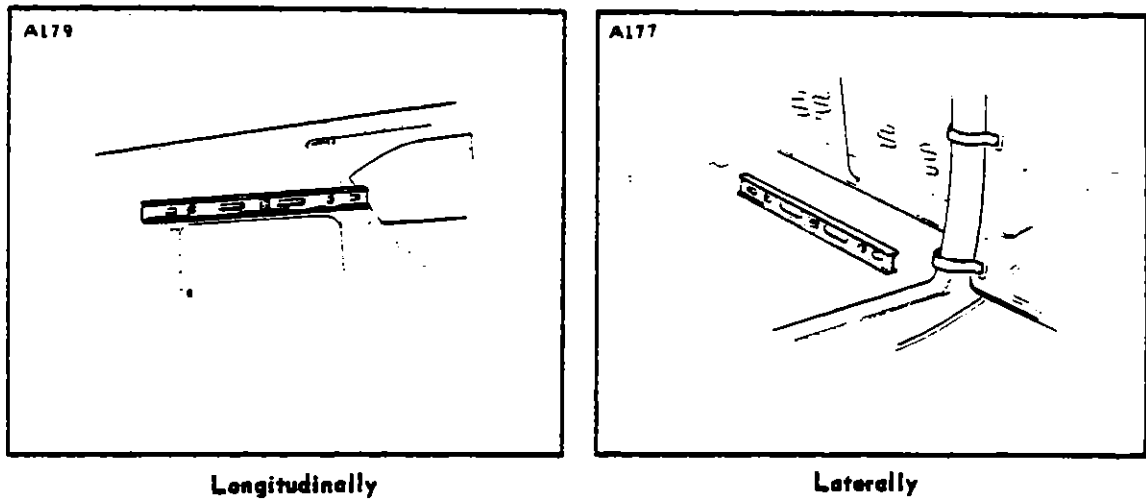

FIGURE 2-11. LEVELING AIRPLANE
2-13. **Leveling.** (Refer to Figures 2-11 and 2-12.)
- a. To laterally level the aircraft, place a level over the bulkhead to which the baggage door hinge brackets are attached or on the hat section channel of the firewall bulkhead. (Refer to Figures 2-11 or 2-12 for the particular location of the aircraft being serviced.) Should equipment or other obstacles hinder placing the level directly on the channel, use two spacers of equal length between the level and the channel to bring the level above any obstacles.
- d. To longitudinally level the aircraft, partly withdraw the two leveling screws on the side of the fuselage. Refer to Figures 2-11 or 2-12 for the leveling location on the particular aircraft being serviced. Use a level long enough to extend across the two screw heads.